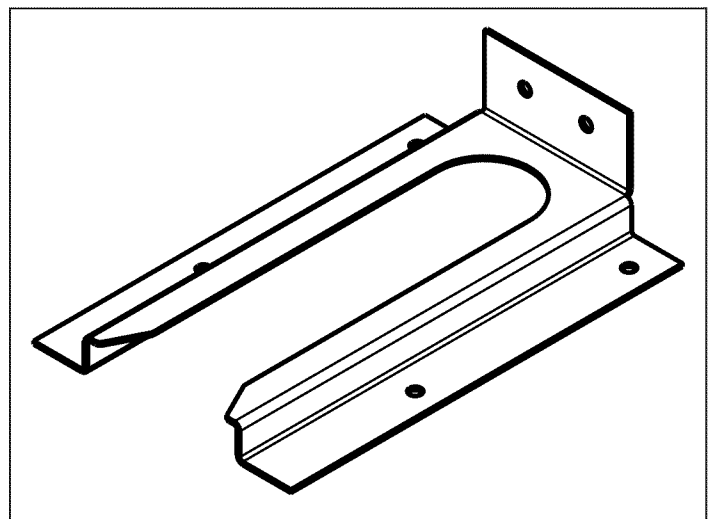
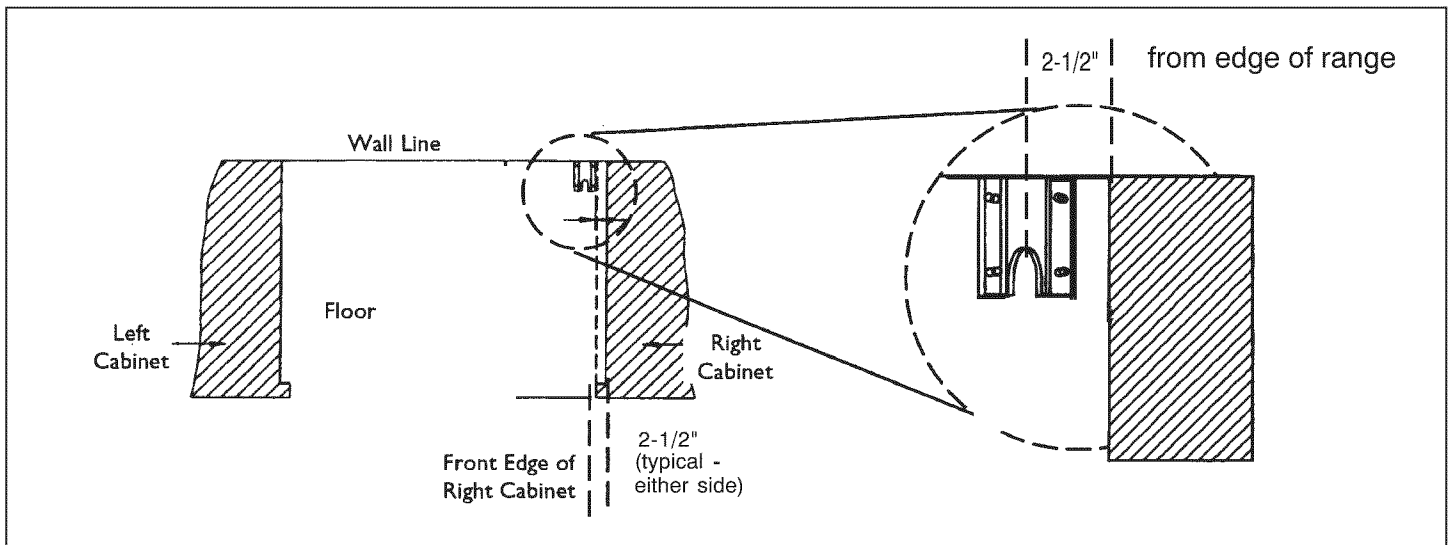

Figure 7a: Mounting Anti-tip Bracket
Figure 7b: Placement of Anti-Tip Bracket (Top View)
See Figure 7a and Figure 7b.
1. Place bracket on floor in position shown in Figure 7b (Bracket may be used in either corner of the installation area).